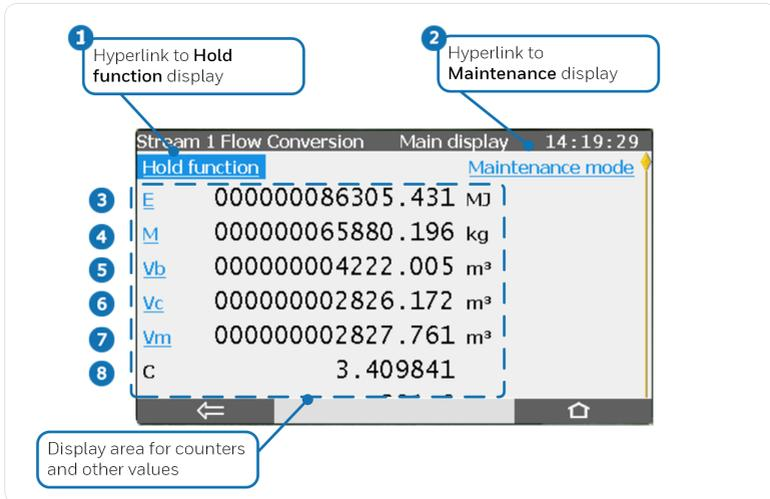

Fig. 5-6: Flow Conversion: Main display - example
- 1 vb denotes the base volume main counter. The hyperlink switches to Flow Conversion AFB's main display ( ⇨ Fig. 5-6: Flow Conversion: Main display - example, p. 34).